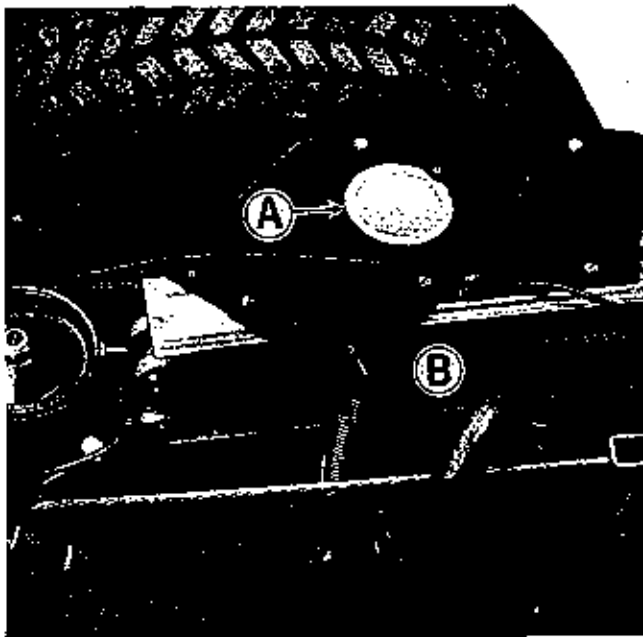

Figure 20. Transmission oil cooler, located under seat deck.
CLEAN TRANSMISSION OIL COOLER: See figure 20. Use a screw driver to remove plug (A). Inspect the oil cooler (B) and if necessary remove any dirt, chaff or oil, which may decrease the efficiency of the cooler. Dirt and chaff collected on the outside of the cooler can usually be brushed off after the engine has been stopped. Be careful not to bend the cooler fins. If grass, chaff, or dirt collect between the fins, it may be necessary to use air or water pressure to blow it out. A non-flammable solvent should be used to remove any oil which may collect on the outside of the cooler. In warm or dusty operating conditions, or when mowing dry dry grass, the cooler may need to be cleaned more often to prevent foreign material from restricting air flow through it.